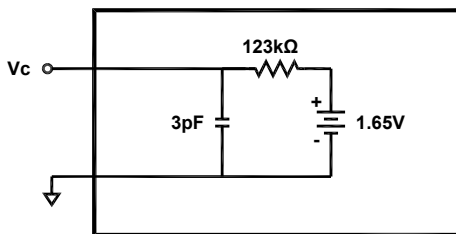

Figure 1. V_C Model – Output Enabled
5. The V_C Model is described below (Fig 1).